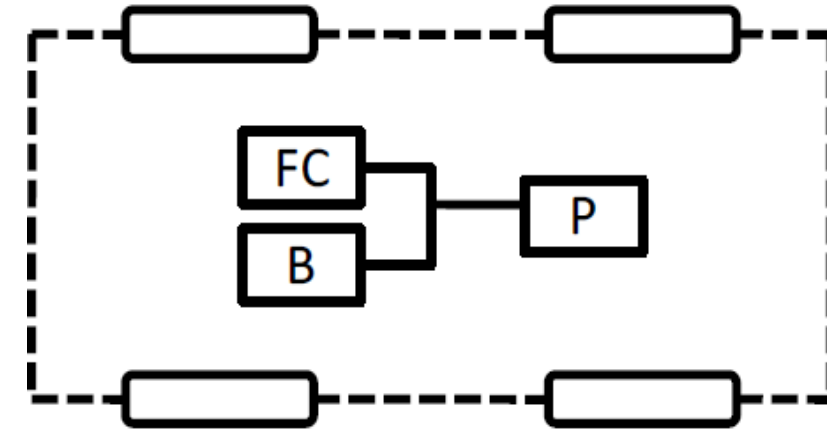

Figure 4c: EV configuration with battery and fuel cell sources [1]
3. Configuration 3: Figure 4c: